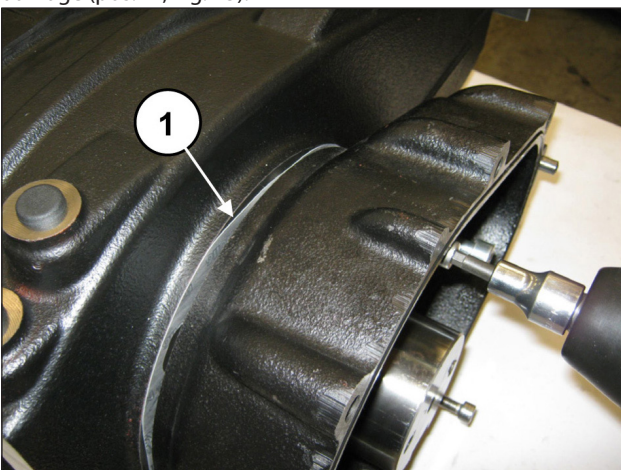
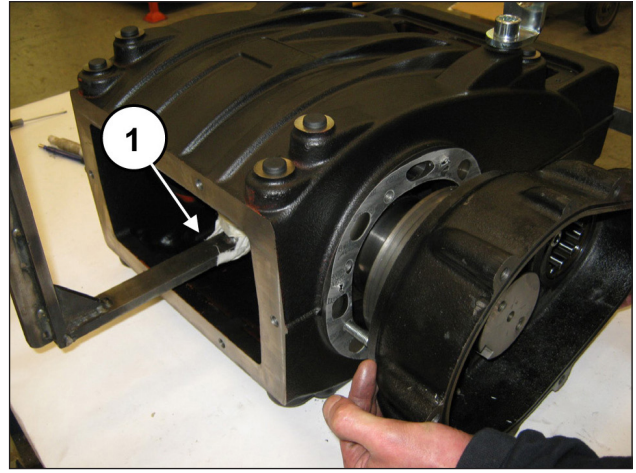

Fig. 24
Fig. 25
Slowly screw in the 3 M8 screws (pos. ①, Fig. 24) to prevent that the box can tilt too far and get locked in the housing. Remove the box while supporting the shaft to prevent damage (pos. ①, Fig. 25).